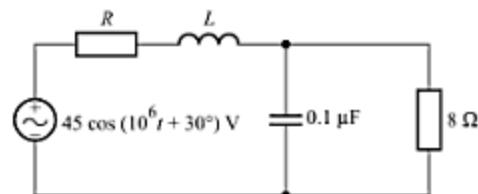

Fig. C-82
- C-135.** In the circuit shown in Fig. C-82, find the values of  $R$  and  $L$  so that maximum power is absorbed by the parallel resistor and capacitor load, and also find this power. [Ans.  $R = 0 \Omega$ ,  $L = 3.9 \mu\text{H}$ , 208 W]